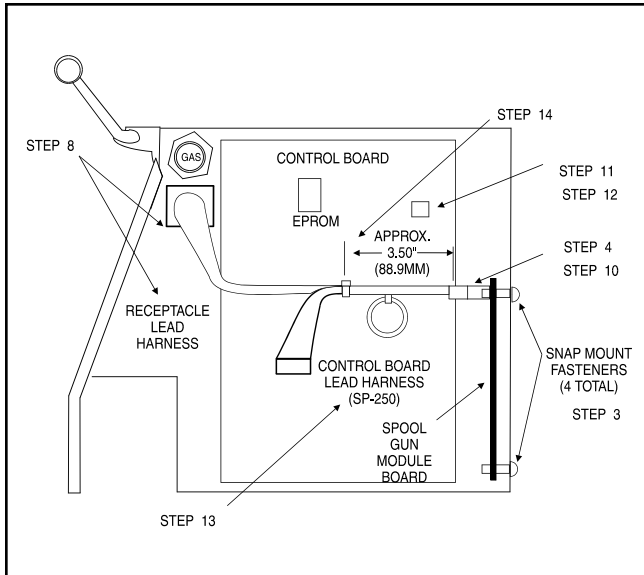

Figure C.2 - Spool Gun Module Board Installation.
8. Find the panel receptacle lead harness included in the kit. See Figure C-2. Insert the panel receptacle into the hole from the control board side of the panel, making sure that the panel receptacle mounting plate is positioned so that the grounding screw is in the lower left corner of the plate.
11. Disconnect the 4-pin gas solenoid plug from the receptacle (J8) on the upper right corner of the Control Board. See Figure C.2. Reconnect this plug into the 4-pin receptacle (J14) on the top of the Module Board.
13. Using the cable tie included in the kit, tie the two harnesses together approximately 3.50 inches (88.9mm) from the end of the lead plugs as shown in Figure C.2.